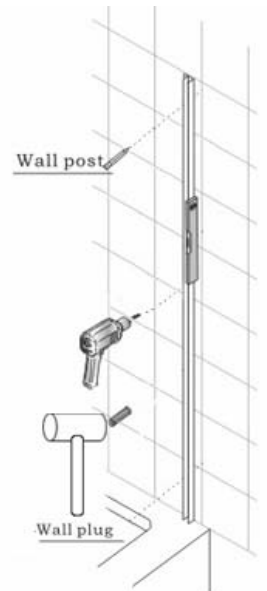

Fig 1
2. Drill holes with 6mm masonry drill bit, and fit wall plugs **BB6204** Fig 1